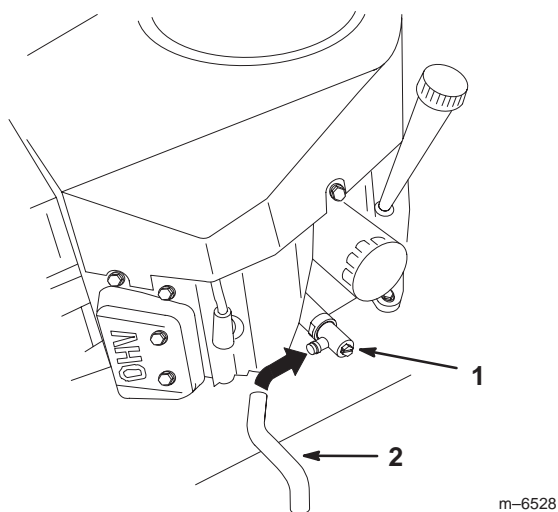

Figure 18
5. Slide the drain hose over the oil drain valve (Fig. 18).
6. Place a pan below the oil drain hose. Use either a flat screw driver, 3/8 inch (10 mm) wrench to open valve (Fig. 18).
7. Rotate valve end counterclockwise to open valve (Fig. 18).
8. When oil has drained completely, rotate valve end clockwise to close the valve (Fig. 18).